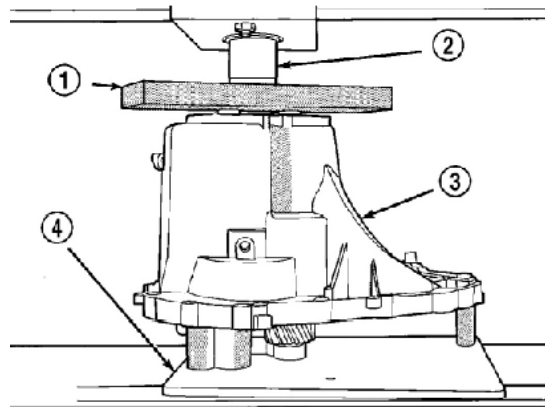

Figure 3-53 Gear in compression box
(19) Fix the transaxle gear box on the compression machine and extrude the input shaft assembly and output shaft assembly from the case (Figure 3-53).